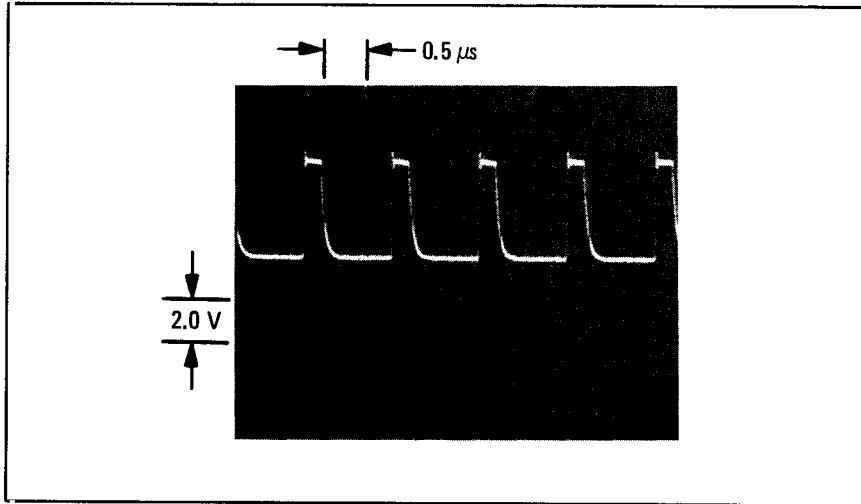

Figure 1. Display of 1 MHz Reference Signal (dc coupling to J3-Pin 5; internal triggering)
2. Verify that the waveform shown in Figure 1 is correct.